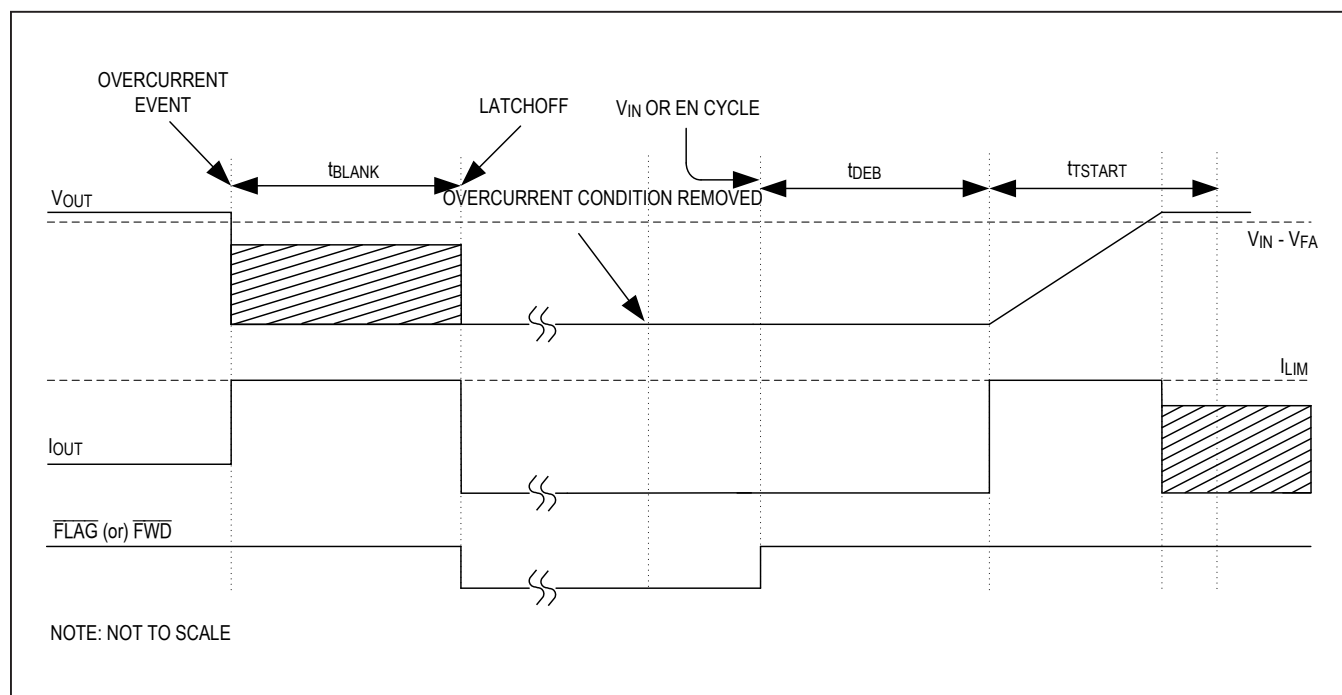

Figure 9. Overcurrent Fault Timing Diagram in Latchoff Current-Limit Mode
In latchoff current-limit mode during normal operation, if the device enters an overcurrent condition, the t_{BLANK} timer starts. The t_{BLANK} timer resets as and when the overcurrent condition resolves before the t_{BLANK} duration has elapsed, and then the normal operation continues. If the overcurrent condition exists for the t_{BLANK} duration or if the device junction temperature reaches T_{JC_MAX} , the output NFET Q2 is turned off and latched, the t_{BLANK} timer resets, and the \overline{FLAG} (or \overline{FWD}) pin asserts. To reset the device, either toggle enable control signal (EN) or cycle the input voltage. Figure 9 depicts a typical operating behavior in latchoff current-limit mode.